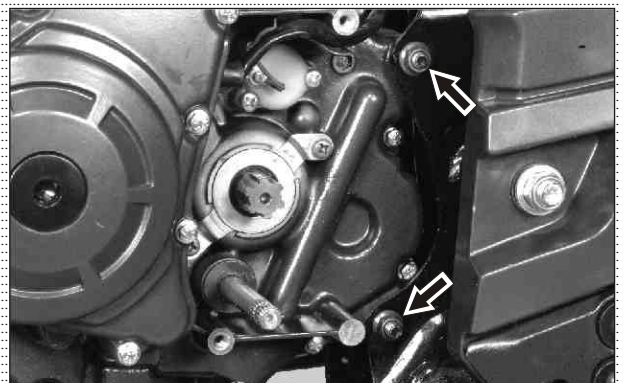

Fig. 3.45
- Remove hexagonal flange bolts (M8x95 - 1 no) and (M8x120 - 1 no) from the rear mounting of the engine assembly. (Fig. 3.45)